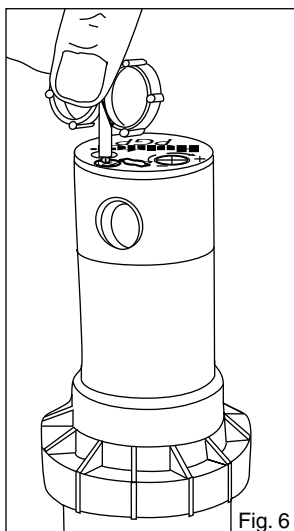

Fig. 6
Insert the steel hex end of the Hunter wrench into the radius adjustment screw (Fig. 6). Turn the screw clockwise (into the stream of water) to decrease the radius, or counterclockwise to increase the radius. Radius can be reduced up to 25%.
2. Using the hex key of the Hunter wrench, turn the radius adjustment screw (Fig. 6) counterclockwise to be sure it is not blocking the nozzle socket opening. If a nozzle is already installed, it can be removed by backing out the adjustment screw and turning on the water, or by pulling outward on the nozzle "ears" with a pair of needle-nosed pliers.